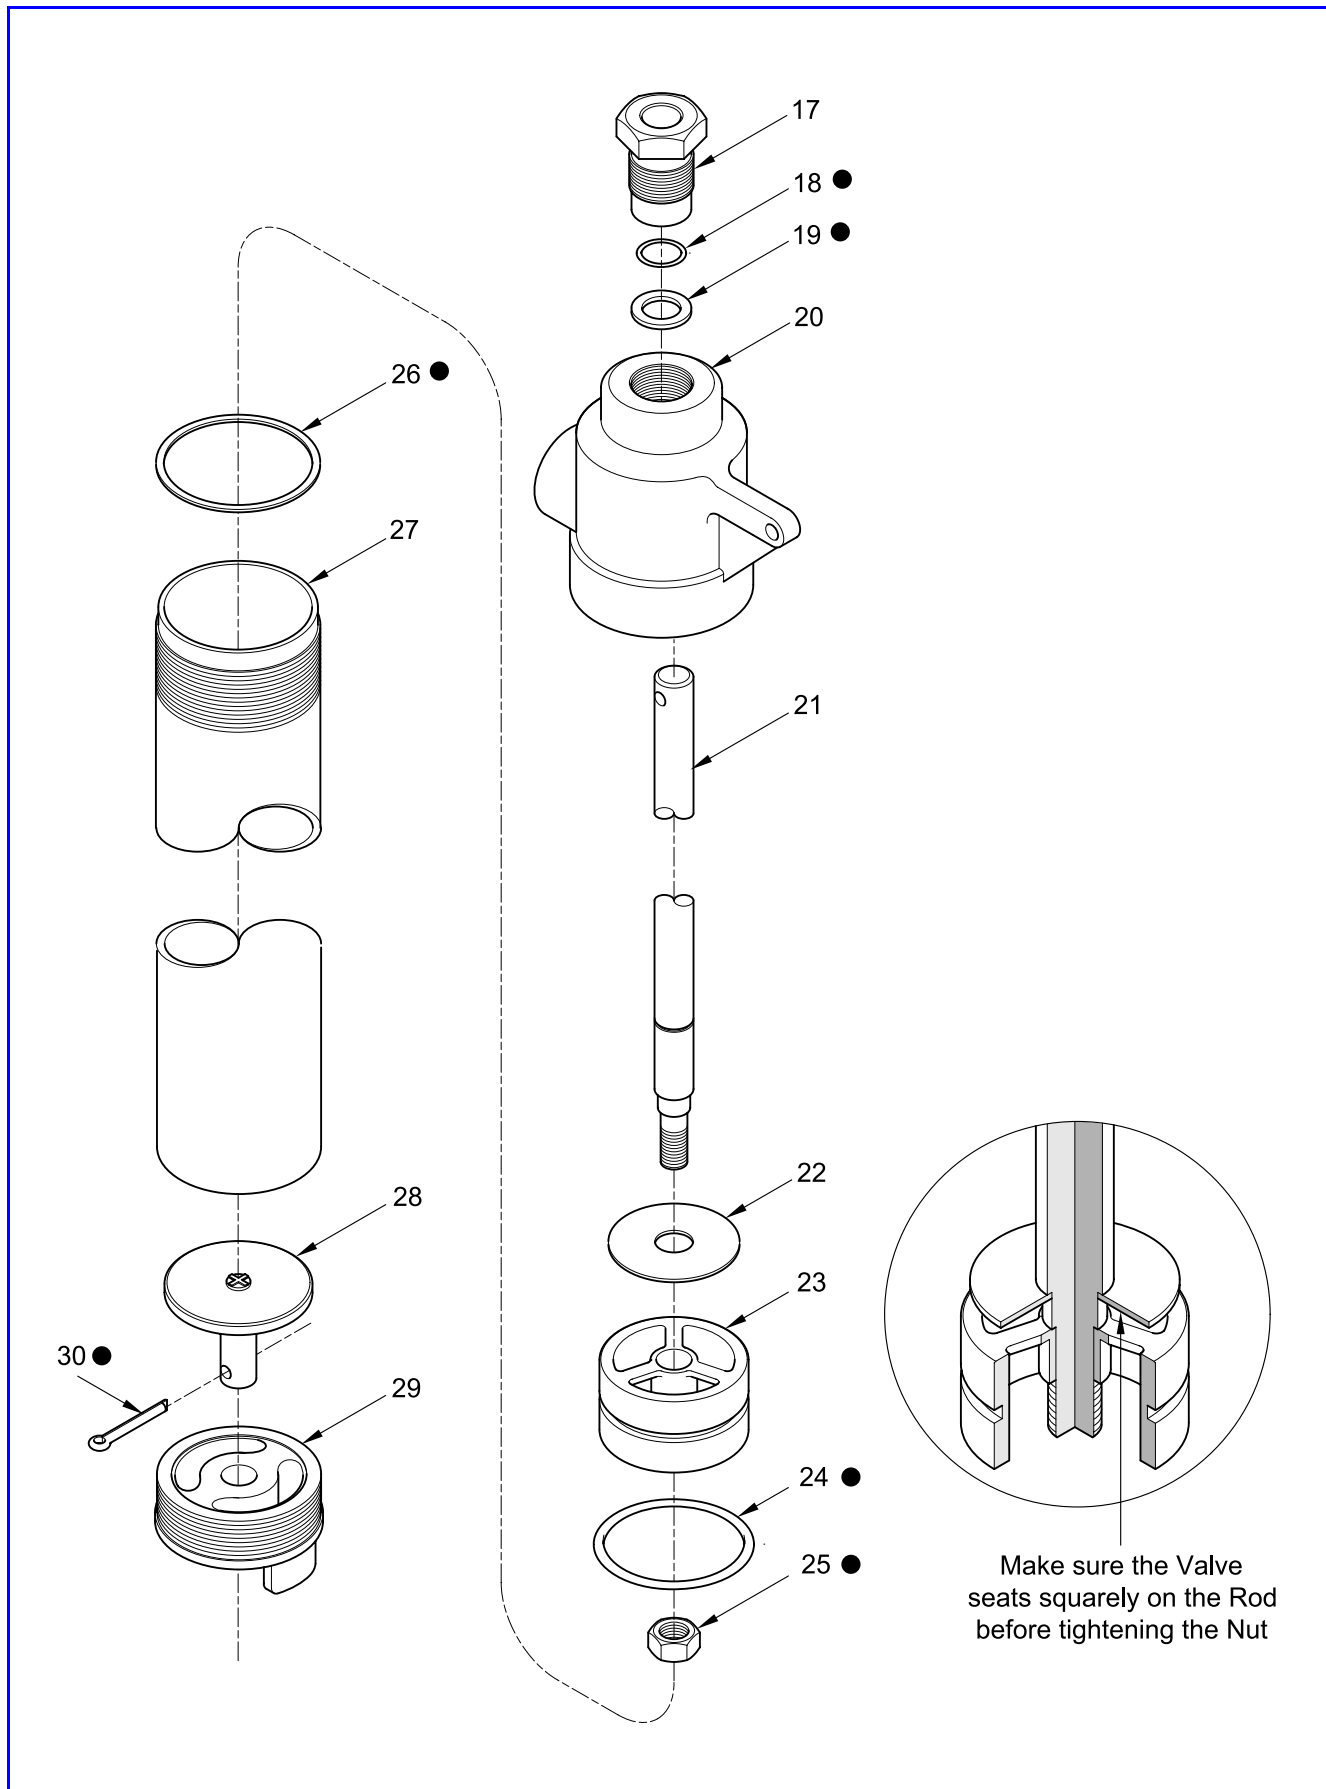

Figure 3 Pump Tube Assembly for Model 7530 Series - Exploded View
NOTE: Refer to **Figure 3** for component identification on the pump tube procedures.
Make sure Valve (22) seats properly on Rod (21). Damage to components can occur. See Figure 3.
5. Screw Nut (25) onto the Rod.
6. Install O-Ring (24) onto the Plunger Body.